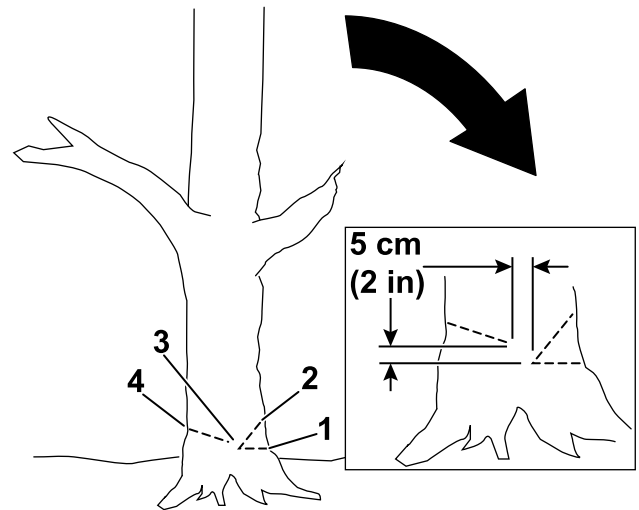

Figure 17
- Make a second cut to form a notch, starting the cut at least 5 cm (2 inches) above and away from the first cut (Figure 17).
- Make the back cut from the opposite side of the notch and about 5 cm (2 inches) higher than the bottom of the notch as shown in Figure 17.
Important: Stop the third cut 2.5 to 5.0 cm (1 to 2 inches) from the notch to form a hinge between the cuts (Figure 17), which keeps the tree from falling in the wrong direction or twisting as it falls.
Note: As the back cut nears the hinge (Figure 17), the tree should begin to fall.
- Make the first cut a third of the way through the tree diameter on the side where you want the tree to fall (Figure 17).